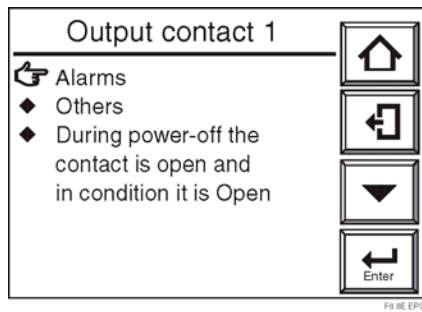

Figure 8-8 Output Contact 1 Display
4. Select the desired output contact. In this example contact output 1 has been selected (see Figure 8-8).